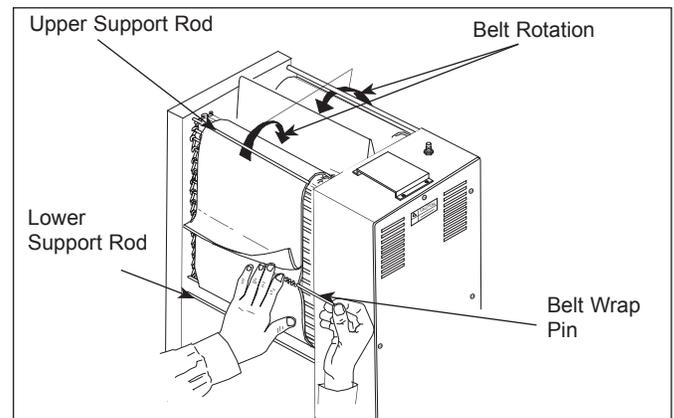

Figure 12. Installing Belt Wrap
6. Install the new Belt Wrap(s) around the Conveyor Belt Chains inside the yellow rods with the "zipper" flap exposed and hanging down (Figures 12 & 13).